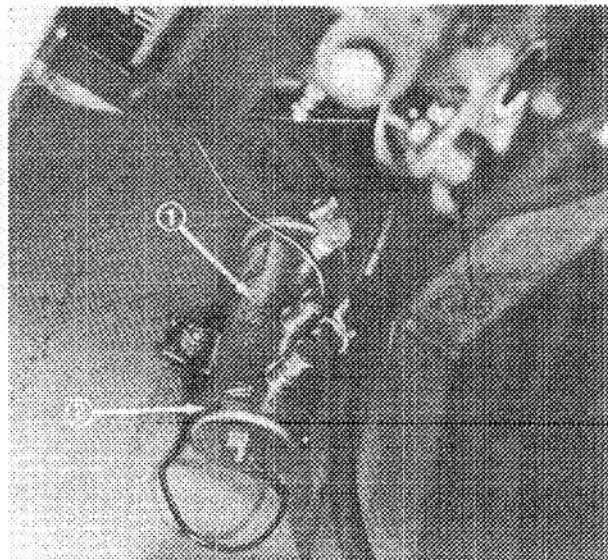

Figure 59
1. Fuel pump is located on inner frame at right rear of engine (Fig. 59).
3. Place a drain pan under fuel pump and remove cover from fuel pump with 17 mm wrench (Fig. 59). Take care not to damage wire while removing cover.
6. Clean magnet of any residue (Fig. 50), insert filter into body and install cover (Fig. 59).